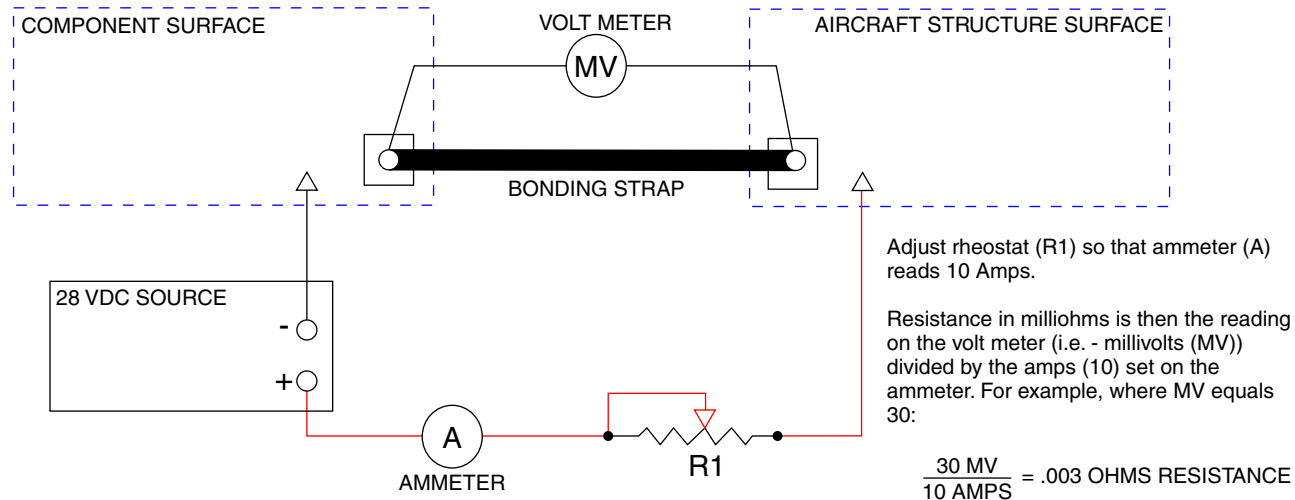

Figure 4-12b. Millivolt Drop Test
3. Another method of measurement is the millivolt drop test as shown in Figure 4-12b.